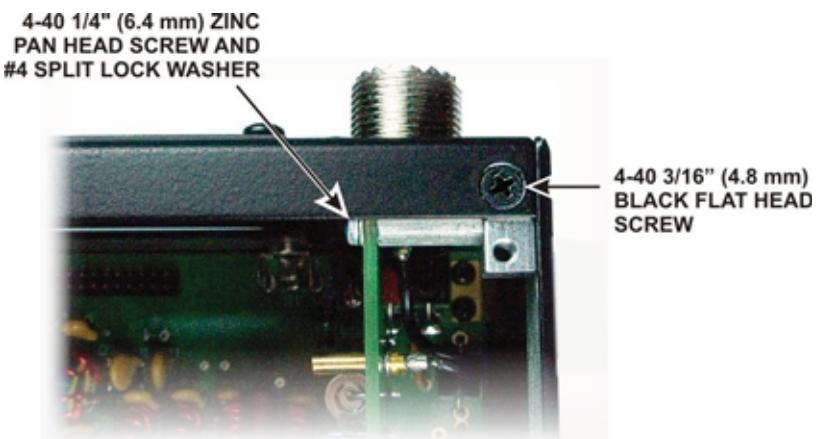

Figure 29. Installing KANT3/KAT3 Mounting Screw.
- Mount the KANT3 or KAT3 board to the standoff on the side panel with a 4-40 1/4" (6.4mm) zinc pan head screw and a #4 split lock washer under the screw head as shown in Figure 29. **Do not place a washer between the board and the standoff.**
- Install a 4-40 3/16" (4.8 mm) black flat head screw to secure the top of the rear panel to the 2D fastener as shown in Figure 29
- Install another 4-40 3/16" (4.8 mm) black flat head screw at the opposite end of the rear panel to secure it to the top 2D fastener on the left side panel. When properly positioned, the rear panel should fit snugly against the inside edge of the side panel as shown in Figure 29. Verify the fit is correct at both ends. If necessary loosen the 2D fastener screws enough to adjust the position of the panels. .